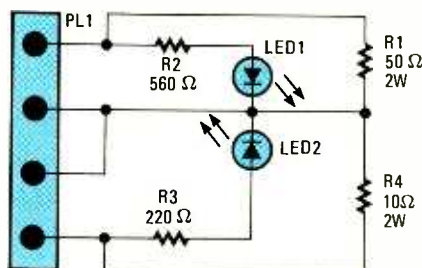

Fig. 4. Power Supply Tester was designed to test IBM-type switching power supplies, and draws about 2 amps at +5 volts and .25 amps at +12 volts.
**Power Supply Tester.** This simple-but-effective power supply tester (see Fig. 4) was designed to test IBM-type power supplies. As you know, IBM power supplies are switching types. To measure voltages on them, IBM supplies must be monitored under actual load conditions. Not wanting to connect my motherboard to an unknown and untested supply, I built this small tester, consisting of four resistors, two LEDs and one con-